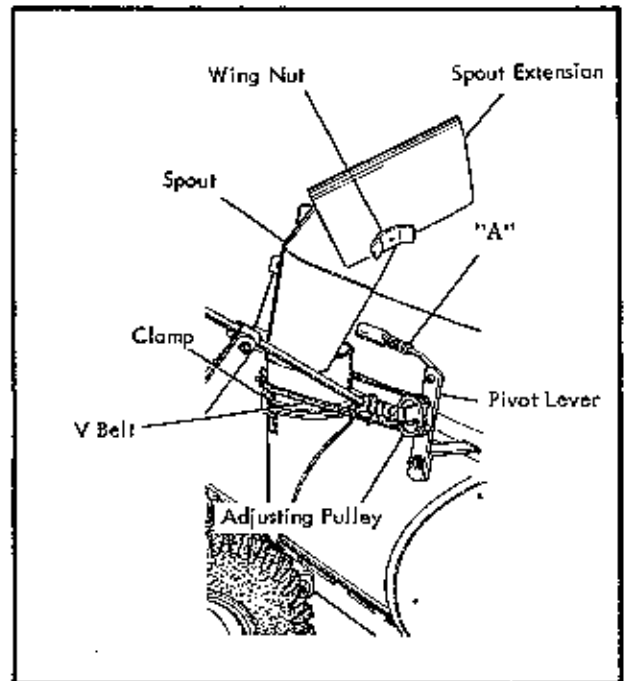

Fig. 4
4. Apply a coating of light oil to the neck of the discharge spout mounting collar and install the spout in place on the rotor housing as shown in figure 4. The application of oil is necessary to prevent rust and to allow the spout to rotate freely. Clamp "v" belt around spout as shown in figure 4, and loop belt around adjusting pulley. To adjust tension of "V" belt, turn the hex nut at point "A" in Figure 4. Avoid excessive tension.